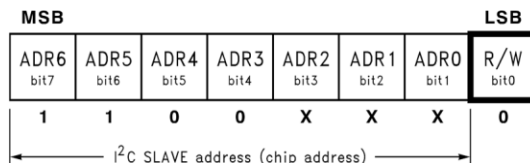

Figure 4. Chip Address Byte
5. The LP3943 provides for an externally selectable I2C slave address via the ADR0, ADR1, and ADR2 inputs. See Figure 4.
After the START condition, a chip address is sent by the I2C master. This address is seven bits long followed by an eighth bit which is a data direction bit (R/W). The LP3943 hardwires bits 7 to 4 and leaves bits 3 to 1 selectable, as shown in Figure 4. For the eighth bit, a “0” indicates a WRITE and a “1” indicates a READ. The LP3943 supports only a WRITE during chip addressing. The second byte selects the register to which the data is written. The third byte contains data to write to the selected register.